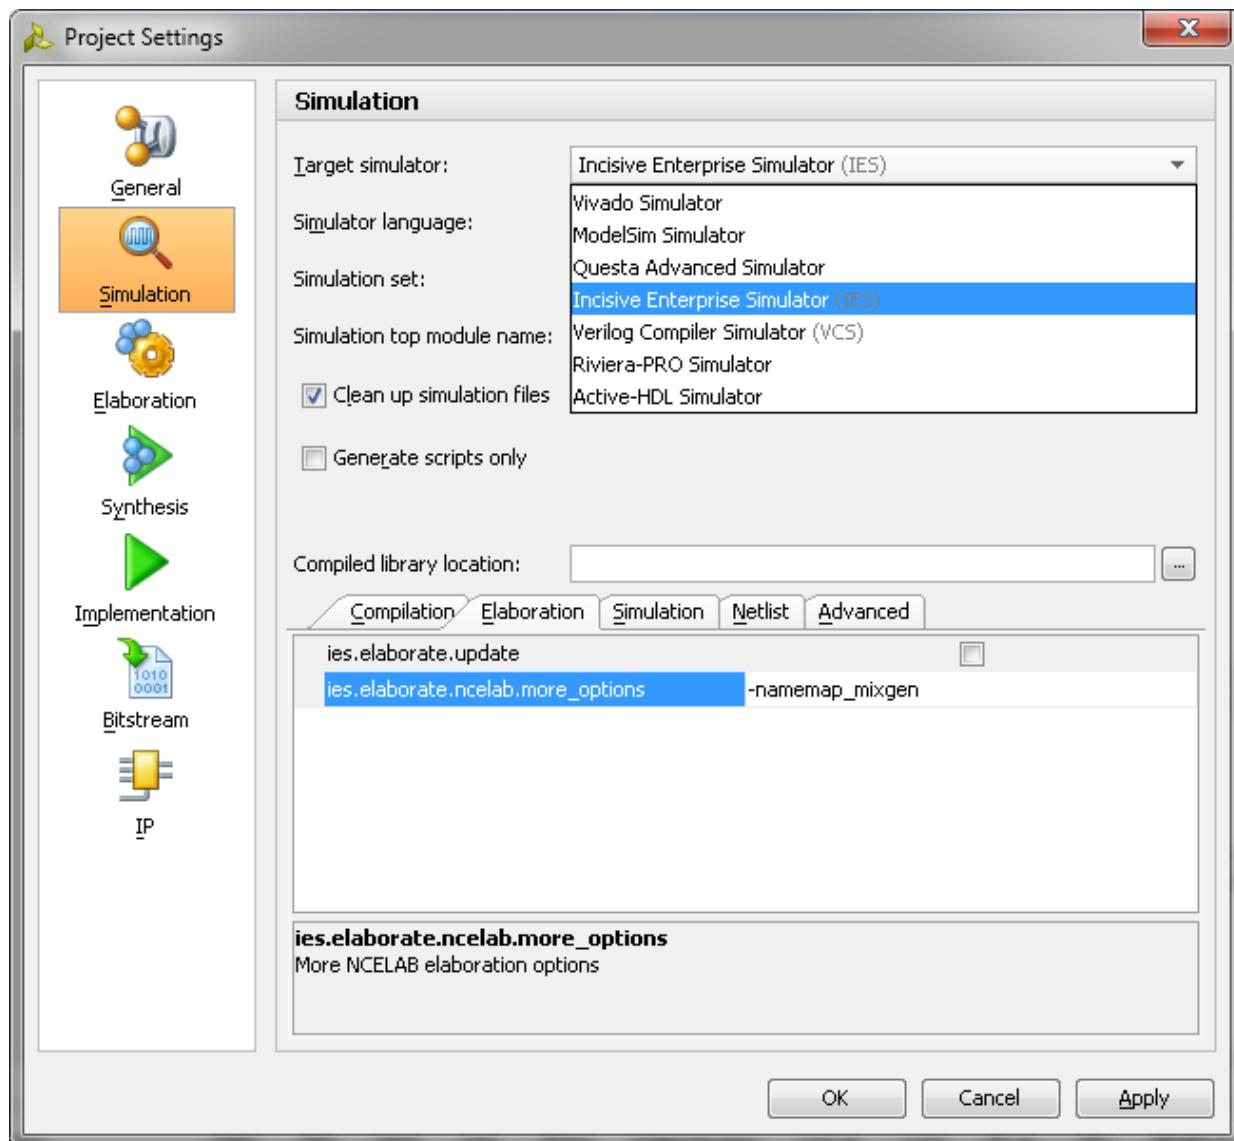

Figure 4-43: Simulation with IES
- d. Under the **Simulation** tab, set the `ies.simulate.runtime` to 1 ms (there are simulation RTL directives which stop the simulation after certain period of time which is less than 1 ms) as shown in Figure 4-43.